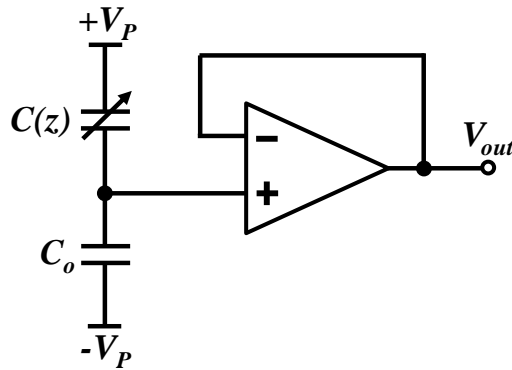

Figure PS1-4
- (g) Many MEMS-based accelerometers sense ΔC as a measure of the magnitude of acceleration experienced. Figure PS1-4 presents one possible circuit that converts a change in capacitance to a readable output voltage. Here, the fixed capacitor C_o has the same value as the bottom electrode-to-proof mass capacitance of the accelerometer at rest. (The accelerometers electrode-to-proof mass capacitance is represented by $C(z)$ in the figure.) For this circuit, write an expression for the output voltage V_{out} as a function of acceleration a , assuming the op amp is ideal. How does the output voltage change as all dimensions are scaled by $(1/2)\times$? (The circuit is biased with $V_P = 10V$)
- (h) The resolution of a sensor is the smallest input it can detect. Assuming the smallest change in capacitance that the electronic circuit in Fig. PS1-4 can detect is 1fF, what is the resolution of the overall accelerometer (in volts)? Can the micro-scale accelerometer measure the force of gravity, i.e., 1g?